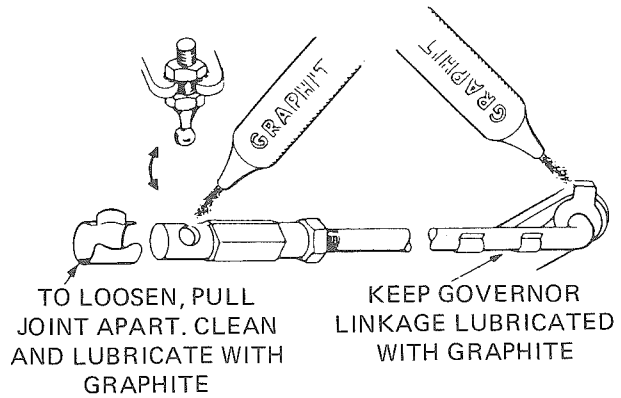

Figure 210 – Governor Linkage
**Governor Linkage** – The linkage must be able to move freely through its entire travel. Every 50 hours of operation, clean the joints and lubricate as shown in figure 210. Also inspect the linkage for binding, excessive slack, and wear.